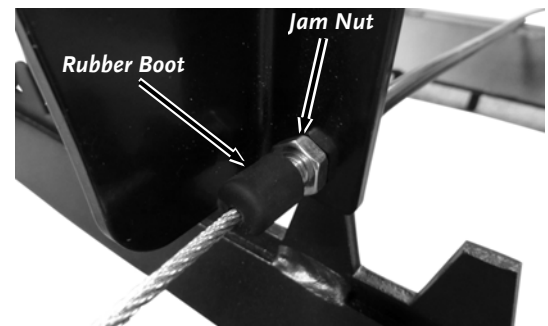

Figure 24
38. Install the outer Nuts and screw all the way on. Hold the inner Nut as you tighten the outer nut using two 1/2" Wrenches on both Cables (**Figure 24**).